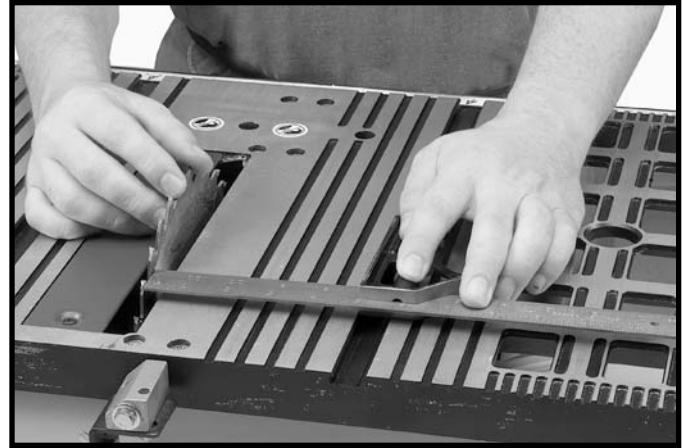

Fig. 33
5. Rotate the blade and check the same marked blade tooth at the rear of the saw table in the same manner, as shown in Fig. 33.